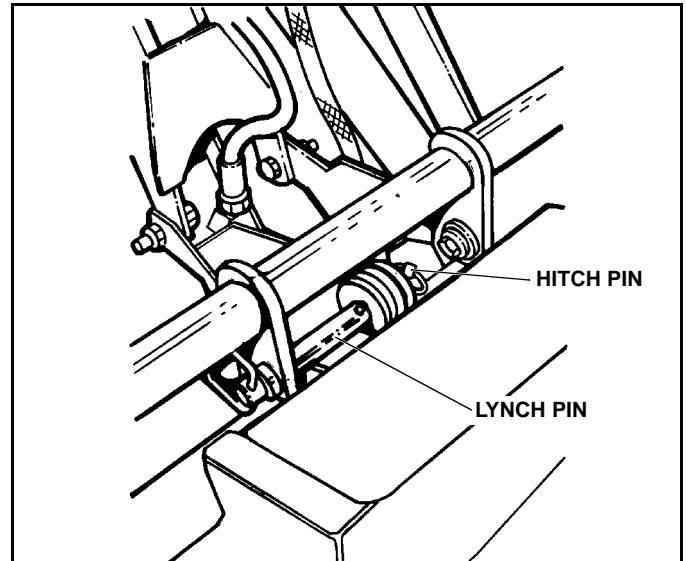

Figure 1-23
10. Raise the Lift Link and Light Bar manually to align the upper Hitch Pin mounting lugs and slide the upper Hitch Pin into place. Install the Lynch Pin to retain the Hitch Pin. (See Figure 1-23)